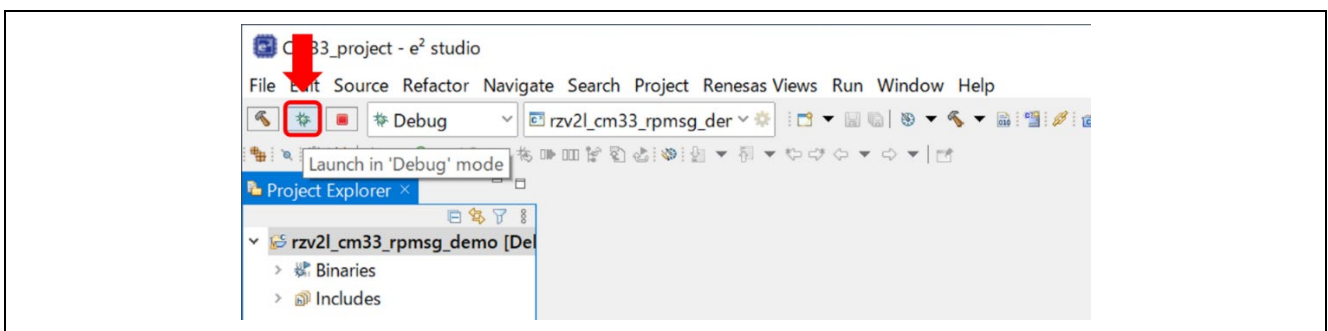

Figure 4-4. Select of Debug Configuration
1. Choose rzv2l\_cm33\_rpmsg\_demo Debug\_Flat or rzv2l\_cm33\_rpmsg\_demo Release\_Flat from the drop-down list indicated by a red arrow in Figure 4-4.